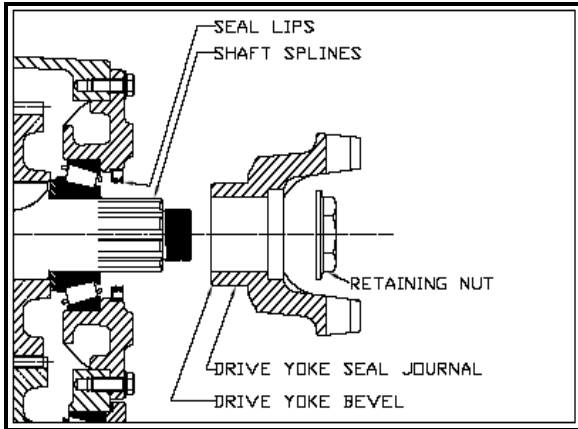

Figure 103
2. Remove the retaining nut from the shaft. Input sectional view shown in **Figure 103**.